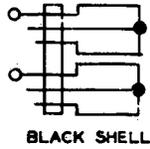

Fig. 7—331A Plug
2.06 331A: The 331A (Fig. 7) is a twin-plug that has solid fingers and a shell of black insulating material. The 331A plug is used on circuits requiring make busy plugs, and is used in short circuiting of tips, rings, and sleeves of the 242-type jacks.